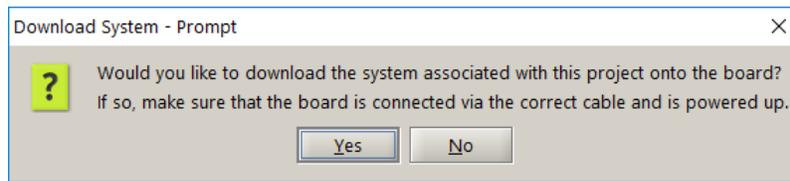

Figure 25. Pop-up window to download the system to the board.
- In the pop-up window in Figure 25, click **Yes** to download the system to the DE2-115 board.